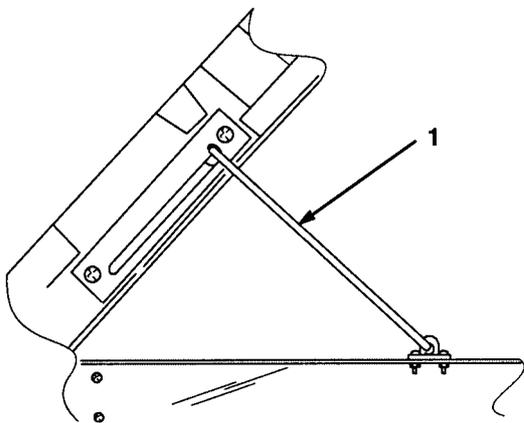

Figure 10
3. Pull up on prop rod to lock in place (Fig. 10).